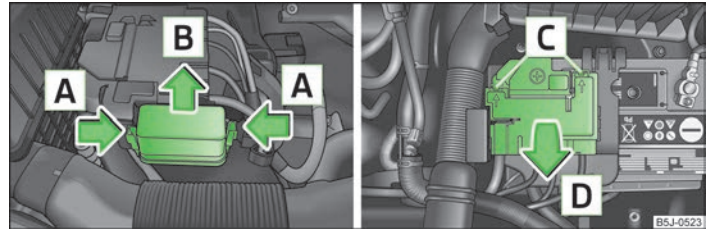

Fig. 141 Vehicle battery: Distribution board cover.
- Press together the circlips in the fuse box cover at the same time in the direction of arrow **A** » Fig. 141 and remove the cover in the direction of arrow **B**.